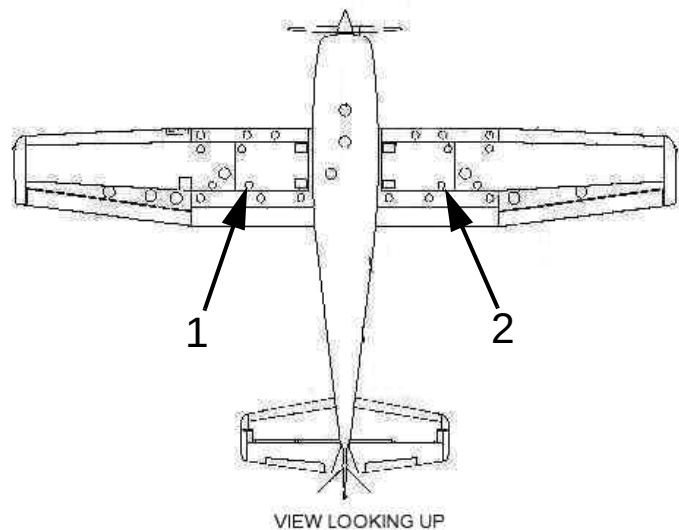

Fig. 28-12a Access Panel C-172 R,S
(1) Remove the access panel. See Fig. 28-12a.